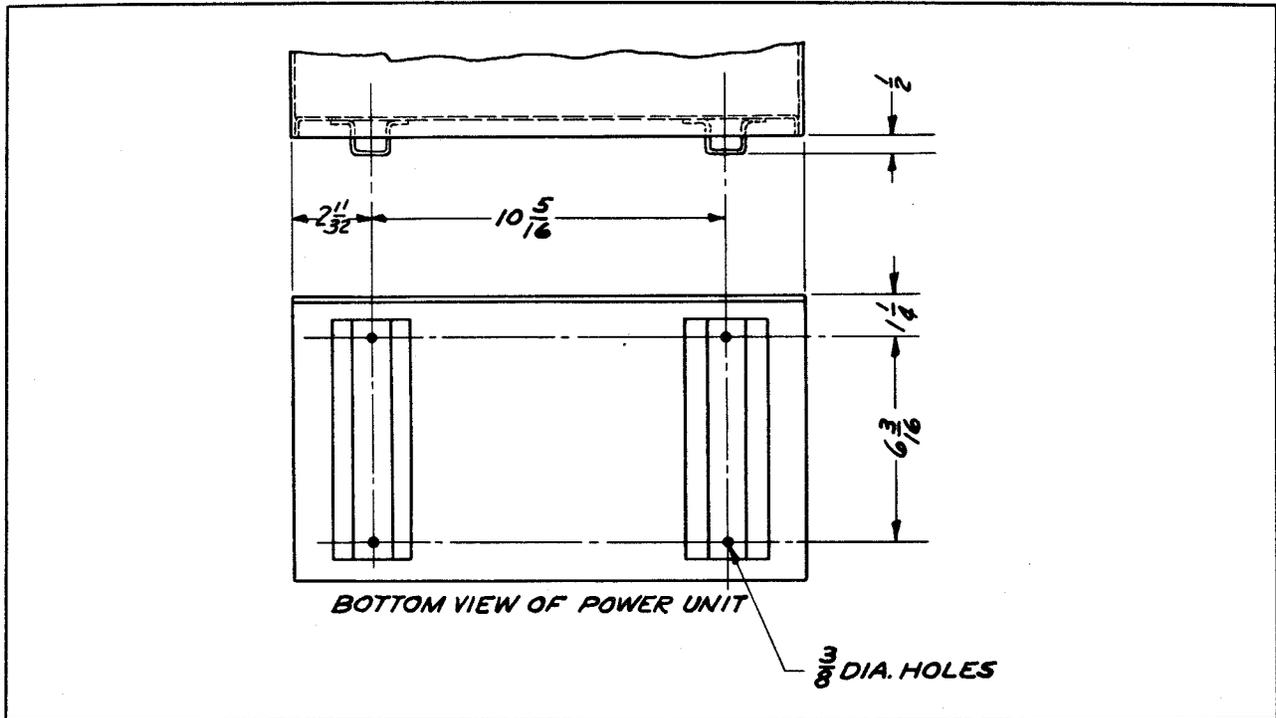

Figure 3-7. Power Unit Drilling Plan, Bottom View
(2) POWER UNIT.—If the power unit is to be mounted on a shelf or table top, drill four mounting holes in the shelf, as indicated on Figure 3-7.